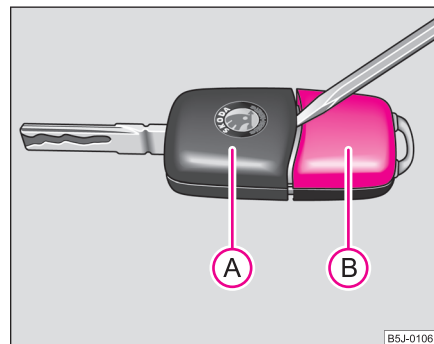

Fig. 19 Disconnect key with radio remote control
Each radio-operated key contains a battery which is housed in the cover (B) of the transmitter housing ⇒ fig. 19. We recommend that you have the batteries of the key replaced by a Škoda Service Partner. ►
- Use a screwdriver to carefully lever off the front part of the key **(A)** ⇒ page 39, fig. 19 from the transmitter housing **(B)**.